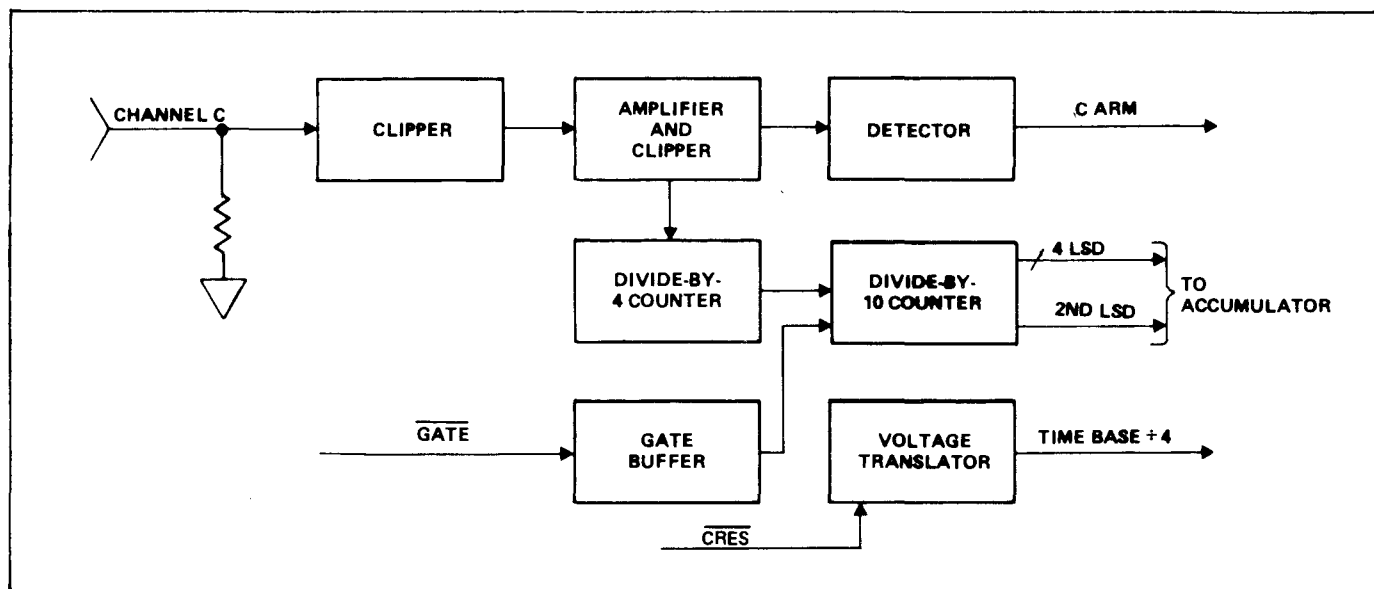

Figure 1.39 - 1.25 GHz RF Board Functional Block Diagram
1.4.21.1 The 1.25 GHz prescaled RF option accepts signals up to 1.25 GHz at amplitudes between 30 millivolts and 1 volt through the channel C input on the front panel. See figure 1.39. The channel C input is terminated in 50 ohms. The measurement signal is applied to a hybrid amplifier which is internally protected against input signals up to 5 Vrms. The amplified output drives both a detector and a divide-by-four counter.